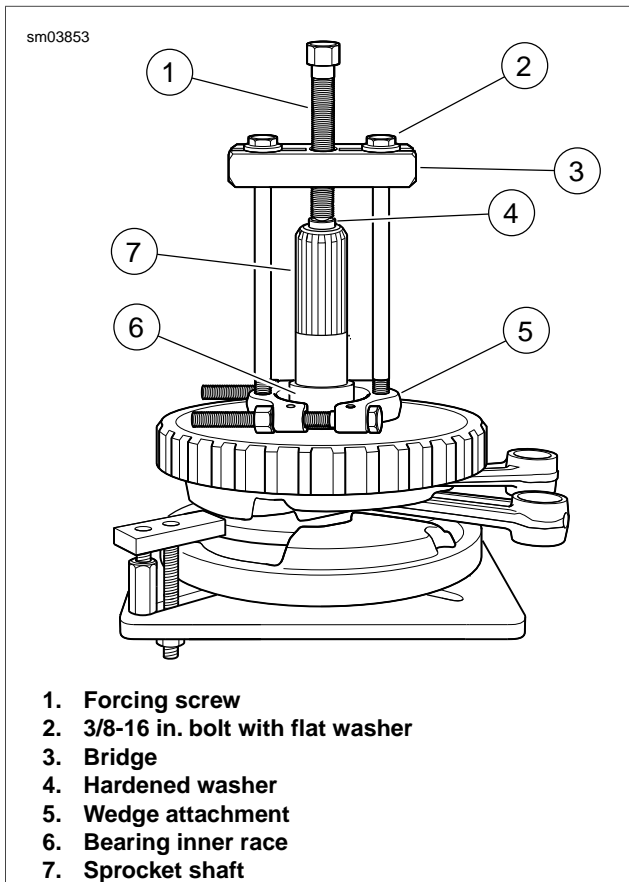

Figure 3-139. Remove Inner Race from Sprocket Shaft
13. See Figure 3-139. Verify that the tool assembly is square, so that the bearing inner race is not cocked during removal.